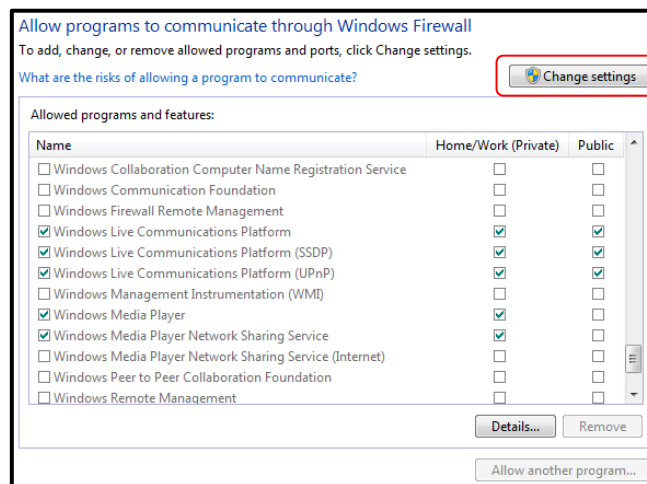

Figure 85 – Enabling firewall settings changes
3. Click the “Change settings” button. Refer to Figure 85.